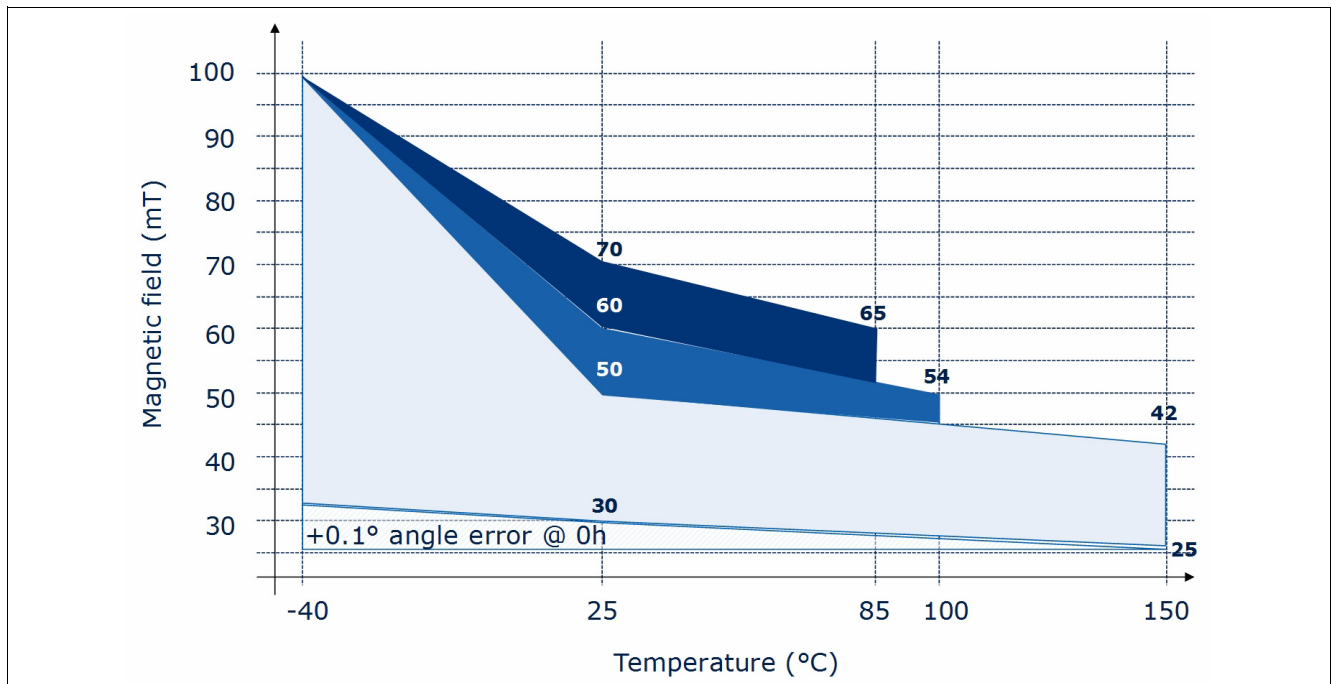

Figure 14 Allowed magnetic field range as function of junction temperature.
- 3) See Figure 14.
The field strength of a magnet can be selected within the colored area of Figure 14. By limitation of the junction temperature, a higher magnetic field can be applied. In case of a maximum temperature $T_j = 100^\circ\text{C}$, a magnet with up to 60 mT at $T_j = 25^\circ\text{C}$ is allowed.